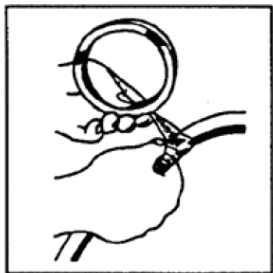

Figure 12
2. Wind a 2" wide layer of masking tape approximately 4 inches from either end of the cut V-ring seal (Figure 12).